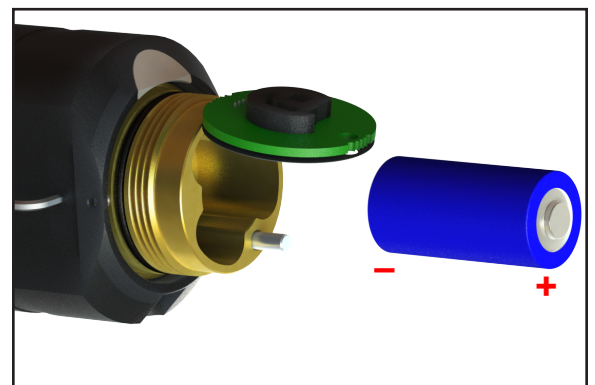

Figure 4: *Remove and Replace Battery*
7. Flip the circuit board up and away from the mounting post. Do not unplug the connected wires. Remove and replace the battery, in the orientation shown in Figure 4.